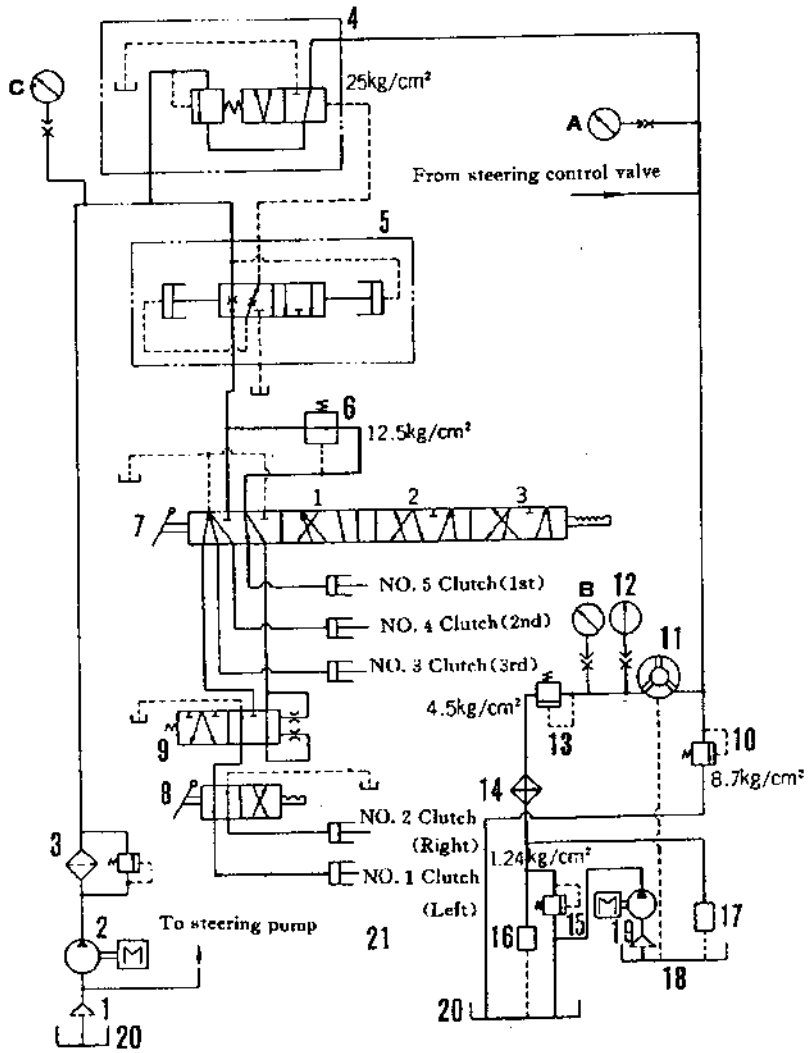

Fig. 2-64 Transmission circuit system schematic
1. Transmission hydraulic circuit system schematic (See Fig. 2-64).